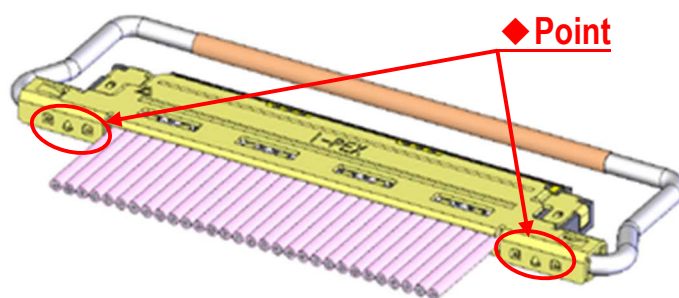

Fig.10 Soldering of SHELL-A and SHELL-B
- ④ Soldering SHELL-A and SHELL-B with the soldering iron at all designated points is recommended. (Fig.10 ◆ point)